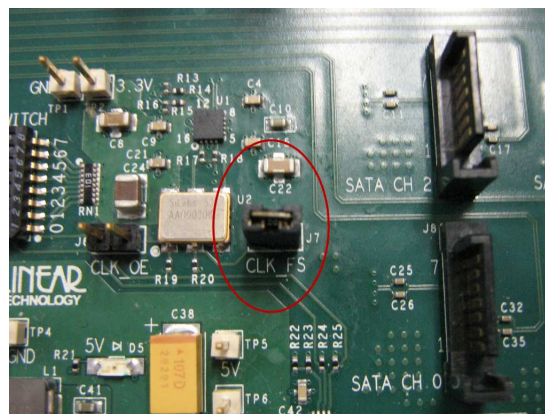

Figure 2 Jumper J7 setting to select clock frequency 150MHz
- Set jumper J7 on SATA/SAS HSMC daughter card to select clock frequency to be 150MHz, as shown in Figure 2